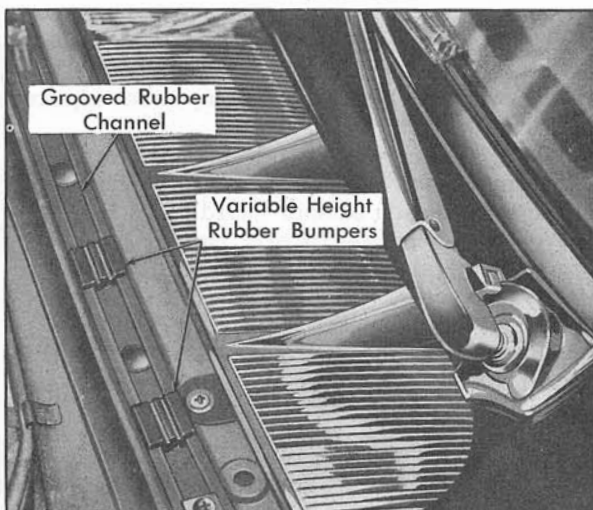

Fig. 16-2 Adjusting Hood To Cowl
3. Position rubber bumpers Fig. 16-2, in channel along the top of the cowl ledge so hood is 1/16" below cowl from center of car to 25" from center-line. From this point outward, the hood should taper from 1/16" to flush in relation to cowl.